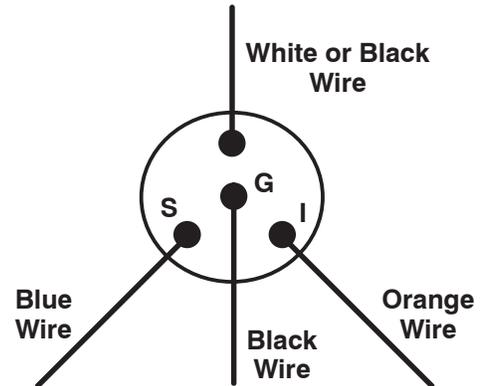

Figure 2
7. Connect the appropriate colored wires from the wire harness to the appropriate terminals on the back of the tachometer with hex nuts as shown in Figure 2.